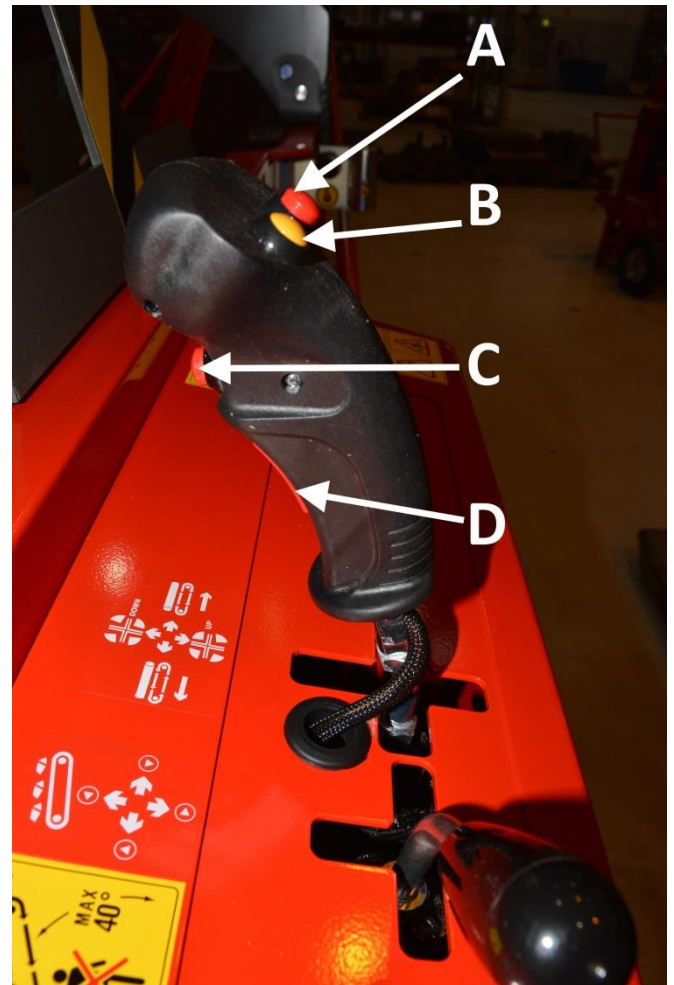

Figure 11. Joystick
6. Start the splitting motion by pressing button C on the joystick in Figure 11. The splitting motion must be normal.
- a. Perform a few sawing cycles without wood by pressing down button D (Figure 11).
8. Start the splitting cycle and stop it by opening the guard mesh. Make sure that the splitting beam returns to its initial position when the guard mesh is closed. In addition to this, ensure that the splitting beam is returned to its original position by pressing button A (Figure 11).